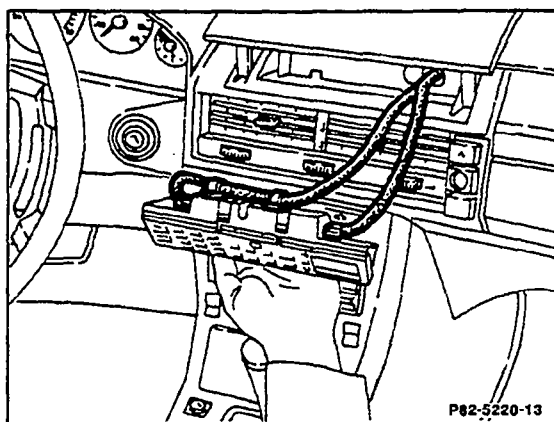

Figure 1
7. Attach two self-adhesive retainer clips to rear of in-dash controller with the open end facing up (Figure 1).